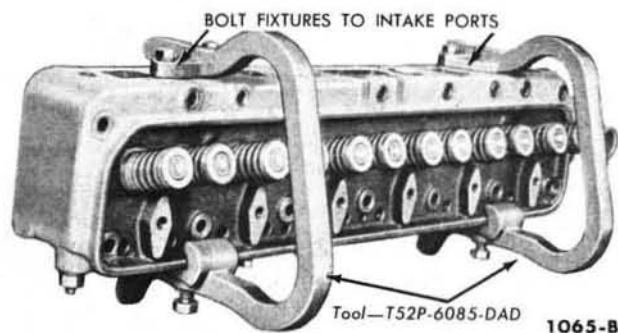
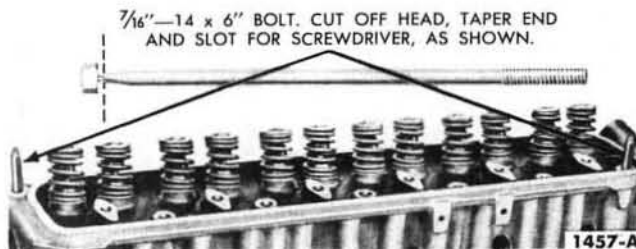

FIG. 15—Cylinder Head Holding Fixture
FIG. 16—Cylinder Head Guide Studs
4. Remove the manifold to cylinder head bolts, and pull the manifold assembly away from the cylinder head. Brace the assembly so the inlet pipe will not be damaged. Install the cylinder head holding fixtures for convenience in lifting the head and to protect the gasket surfaces (Fig. 15). Remove all cylinder head bolts. Install the cylinder head guide studs (Fig. 16). Lift the cylinder head assembly off the engine. **Do not pry between the head and block as the gasket surfaces may become damaged.**